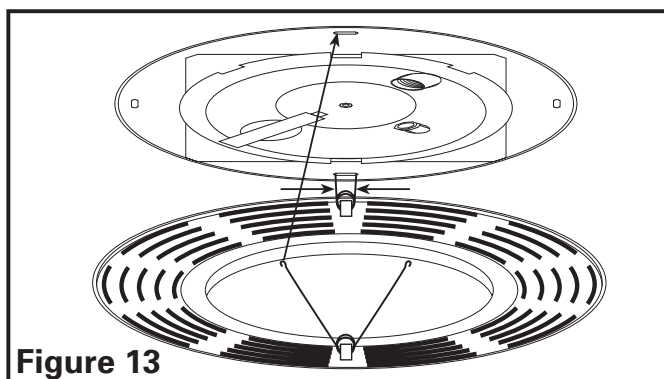

Figure 13
5. Install the grill by squeezing the two ends of the springs together and installing them up into the slots on the fan's housing. Push the grill up into position (**Figure 13**).